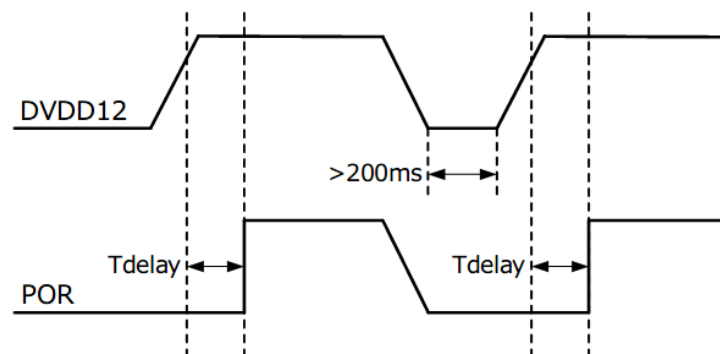

Figure 5-2 POR output waveform when DVDD12 sets OFF to ON
- If DVDD12 is set 1.2V -> 0V -> 1.2V, DVDD12, 0V period has to be kept over 200ms as shown on Figure 5-2.